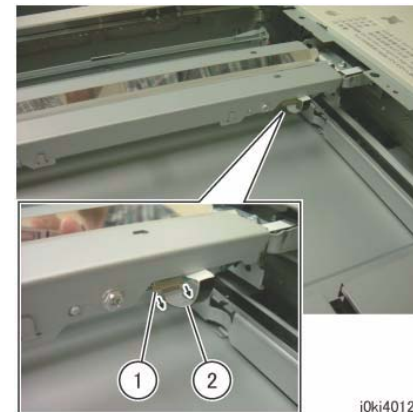

Figure 1 Disconnect the connector
6. Disconnect the connector. (Figure 1)